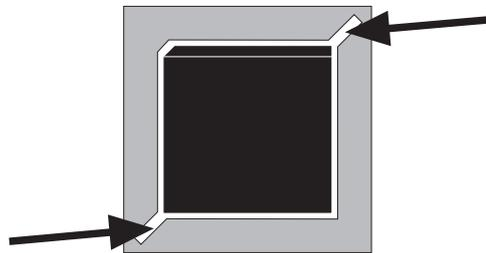

Figure 43: Location of the access holes for the extraction of the ROM.
- To extract the EPROM operate carefully as with the robot. There are two access holes that make the extraction possible as indicated in figure 43.